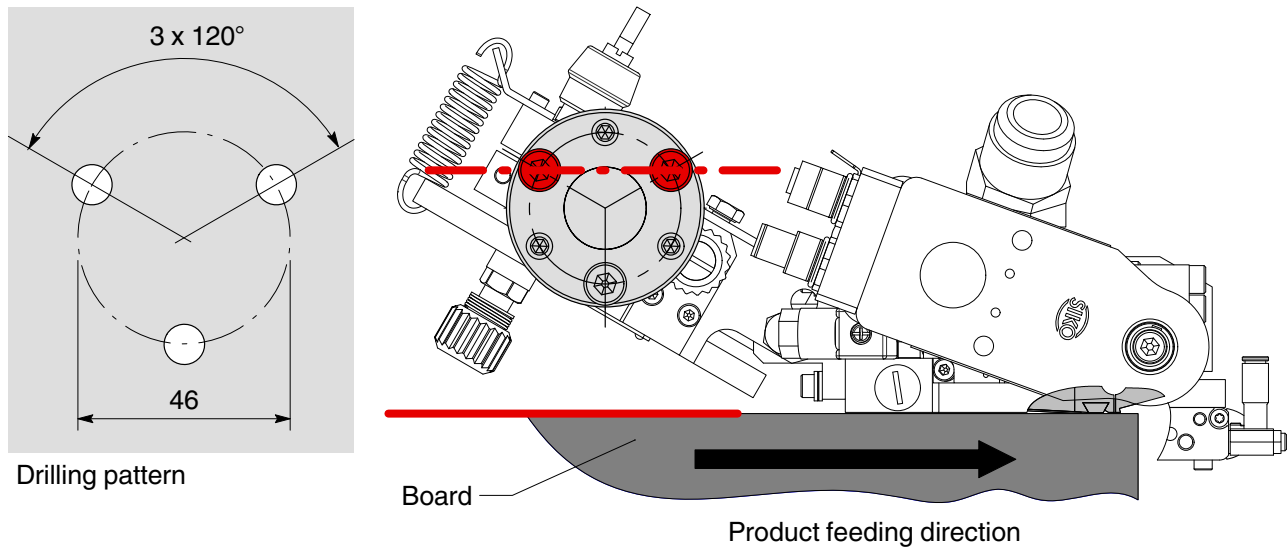

Fig. 9
1. Using the drilling pattern, make three threaded bores M8 for the stand in a suitable place on the parent machine. Two of the threaded bores should be on the side farthest from the board and parallel to the edge of the board (Refer to Fig. 9).